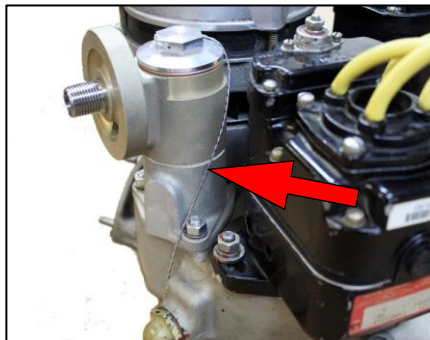

Figure 12
- a. Safety-wire the spool to a suitable location on the engine. Wrap the safety-wire around the spool/sleeve in such a manner that the spool cannot turn counterclockwise (loosening), see Figure 12, and;